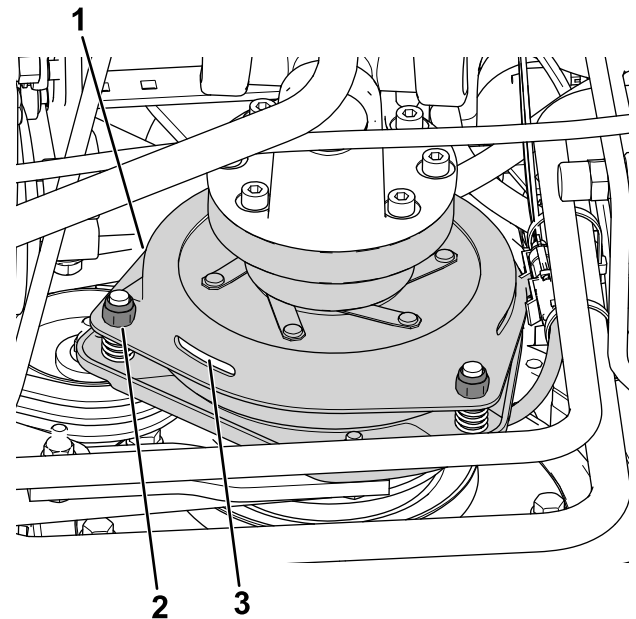

Figure 78
3. Adjust the air gap so that a 0.3 mm (0.012 inch) feeler gauge slides in between the clutch lining and friction plate with light pressure (Figure 78).
**Note:** You can decrease the gap by turning the adjusting nuts clockwise (Figure 78). The maximum service gap is 0.6 mm (0.024 inch). Adjust all 3 air gaps to 0.4 mm (0.012 inches).